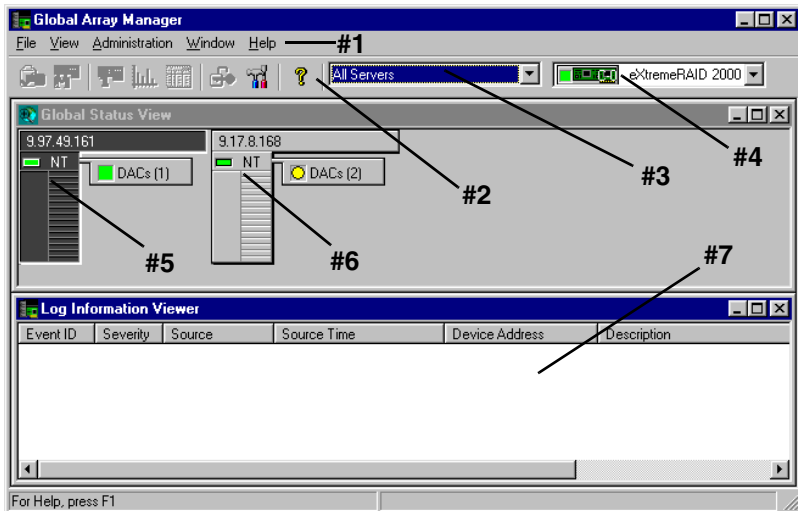

Figure 3-1. Opening GAM Screen
Upon startup (with defined servers), Global Array Manager Client and Workstation Array Manager display the opening screen, consisting of the Global Array Manager window, the Global Status View window, and the Log Information Viewer (Figure 3-1).
The major components of the GAM Client and WSAM windows (Figure 3-1) are described below.
The major components of the Global Status View window (Figure 3-1) are described below:
- Item #7 in Figure 3-1 is the GAM Client and WSAM *Log Information Viewer*. Each line in the Log Information Viewer identifies a single *event* (error, status, warning, etc.) which was noted during monitoring by a file server running GAM Server, and was transmitted by that server to this client workstation. Relevant details accompany the event: